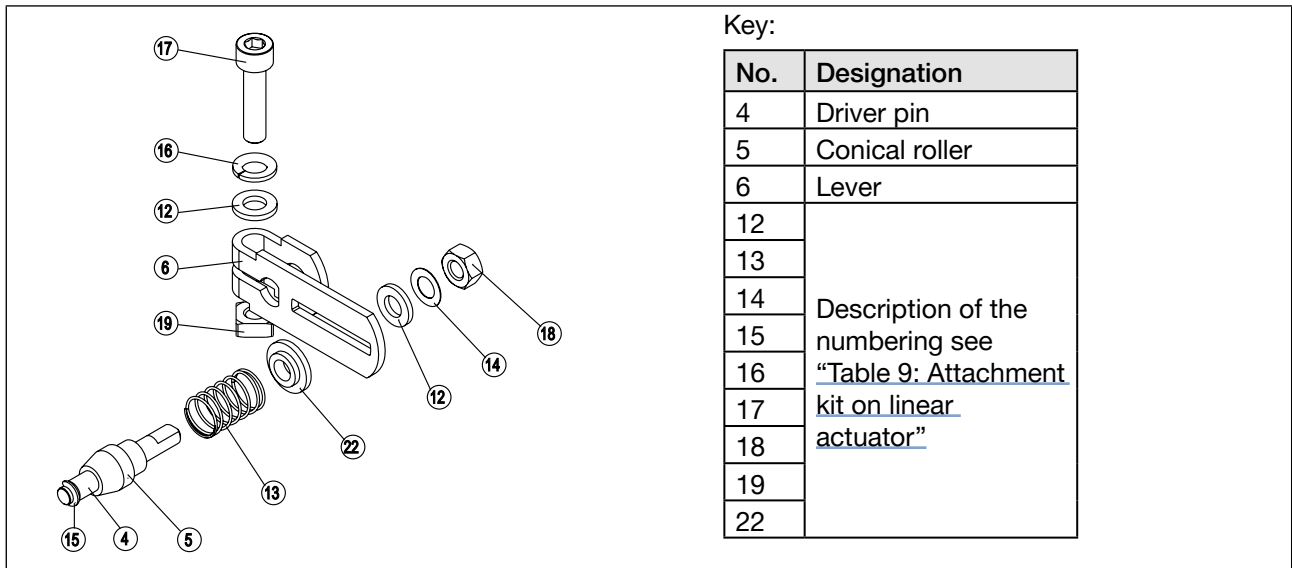

Figure 13: Assembling the lever
- Assemble lever (unless pre-assembled) (see “Figure 13: Assembling the lever”).